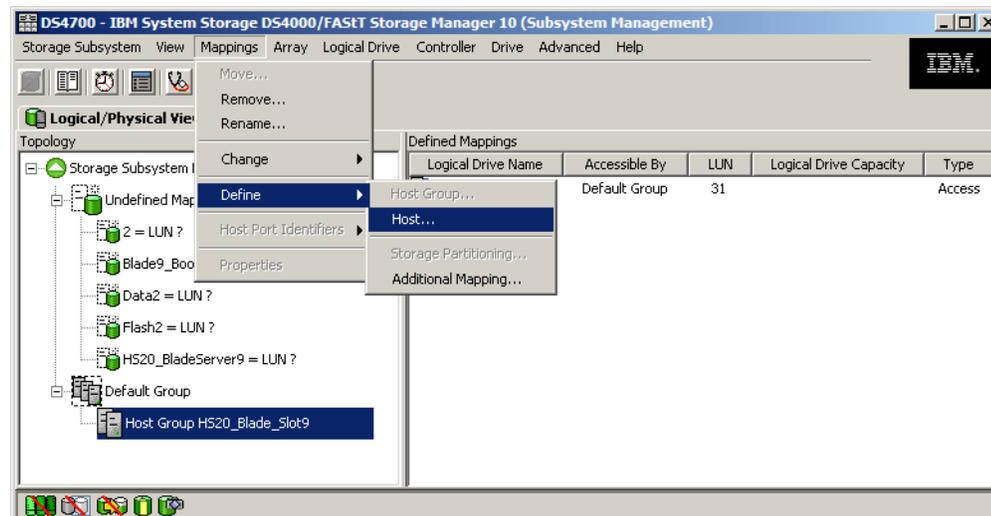

Figure 10-21 Define host
- c. Click the host group and select **Mappings** → **Define** → **Host** (Figure 10-21).